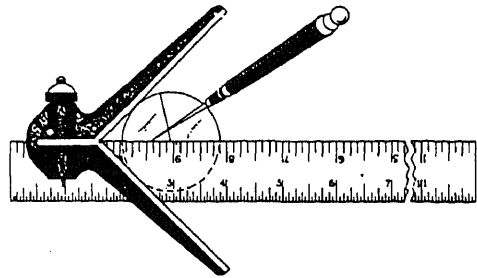

Figure 3-17.—Locating the center of round stock.
Use the center head and rule as illustrated in figure 3-17 to locate the center of round stock. To find the center of square and rectangular shapes, scribe straight lines from opposite corners of the workpiece. The intersection of the lines locates the center.
3. Locate the center of each flange with a surface gauge, or with a center head and rule combination, if the flange diameter is relatively small. (See part A fig. 3-22 and fig. 3-17.) After you have the exact center point located on each flange, mark the center with a sharp prick-punch.